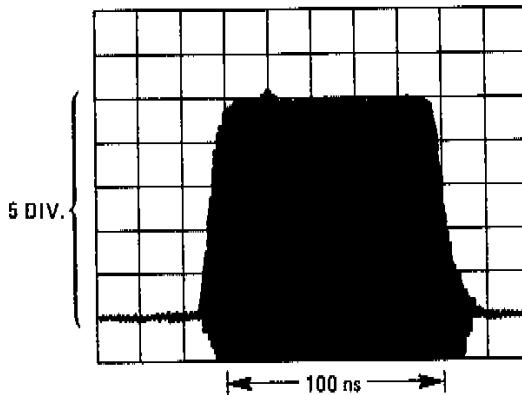

Figure 4-7. Risetime, Overshoot and Ringing Measurement
4. Center the 50 MHz RF pulse waveform on the oscilloscope display. Adjust the oscilloscope vertical position and sensitivity controls so that the pulse base line is one division from the bottom graticule line and 5 divisions high in peak amplitude. See Figure 4-7.
17. Center the waveform on the oscilloscope display. Adjust the oscilloscope vertical position and sensitivity controls so that the pulse base line is one division from the bottom graticule line, and 5 divisions in peak amplitude. See Figure 4-7. Measure rise time and overshoot. Record results in Table 4-5.